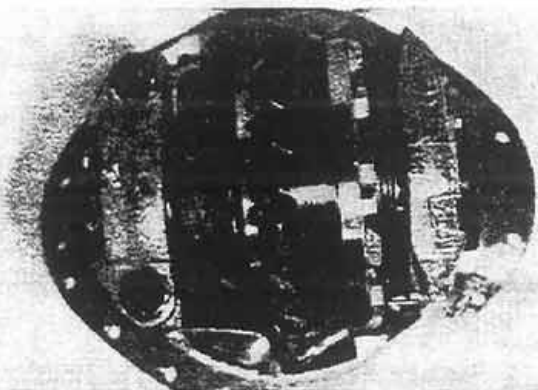

Figure 21:
Step 26. Remove the lock plate from each differential side bearing adjuster nut and mark the nut and housing position with a center punch or dye marker (see Fig. 21).